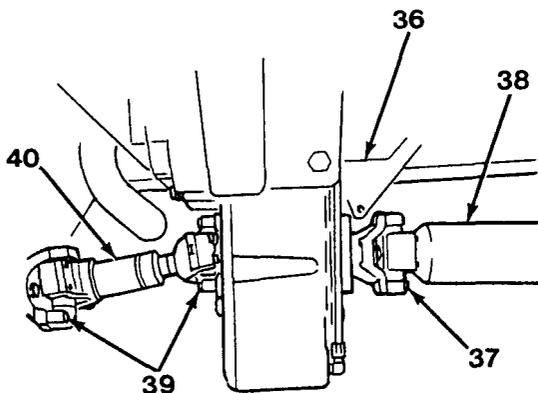
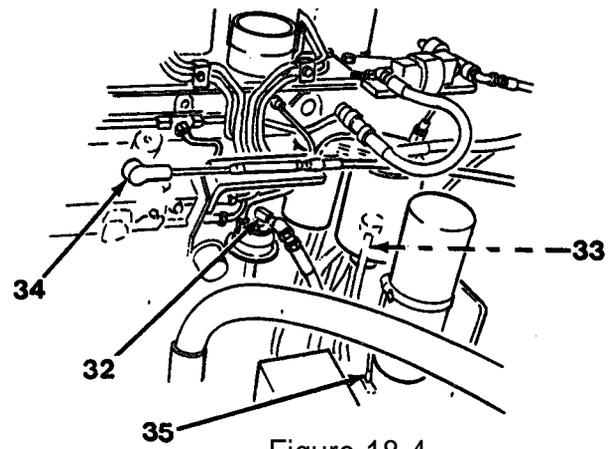

Figure 18-5
Figure 18-4
2. Install rear drive shaft (40) and eight capscrews (39, Figure 18-5) to transmission and
3. Connect front drive shaft (38) and install four capscrews (37) to transmission. Torque four capscrews (37) to 50 lb-ft (68 N•m).
4. Install shift bracket (36) as an assembly (refer to page 11-81) and adjust assembly (refer to page 17-49).
5. Connect cold start cable (35), injector pump throttle cable (34) and fuel hoses (32) and (33, Figure 18-4).